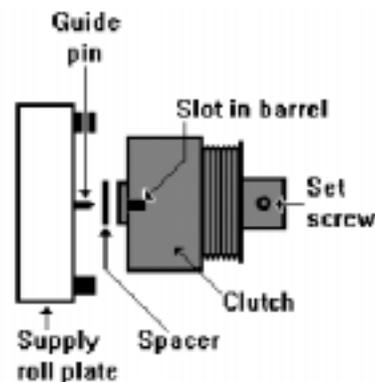

Fig. 2
3. Loosen the supply clutch set screw (Fig.2) by using a 2mm allen wrench. Slide or tap the drive pin through the supply clutch just enough to remove the supply clutch and spacer from the front of the supply roll plate (and the body of the clutch clears the head frame mount).
4. Remove the supply roll plate by using a 3mm allen wrench to loosen/remove the (2) allen screws and washers from the supply roll plate. DO NOT let the allen screws and the small washers fall into the Edge.
6. Install the new supply roll plate over the drive pin and sensor disk, then secure the (2) allen screws and washers using a 3mm allen wrench.
7. Install spacer and supply clutch on the drive pin, pushing the drive pin completely through the supply clutch (and as far through the bearing in the frame as possible). Make certain that the guide pin on the supply roll plate goes in the slot in the barrel of the clutch and that the spacer is against the supply roll plate and the clutch touches the spacer (Fig. 2).